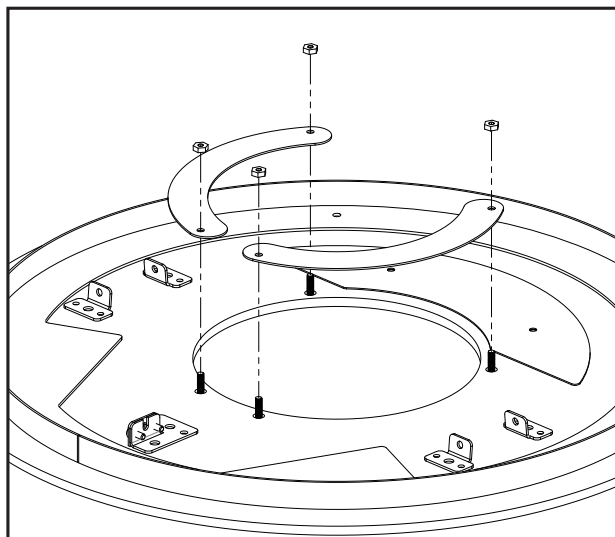

Figure 70: Top Plate Blank Supports
13. Install the two top plate blank supports and nuts (included in the manual bag) on the four (4) studs underneath the top plate (see Figure 70).